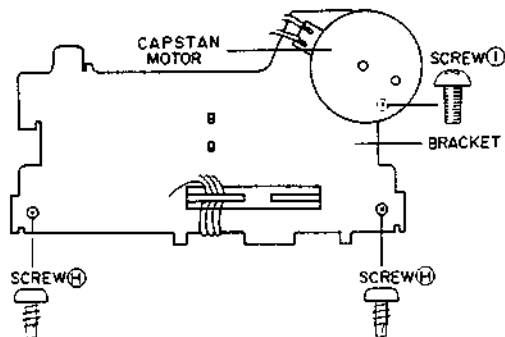

Fig. 3-8
- 1) Remove the side plate retaining screw ③ and then remove the side plate.
- 2) Remove the bracket retaining screw ④ and then remove the bracket. (Refer to Fig.3-8).